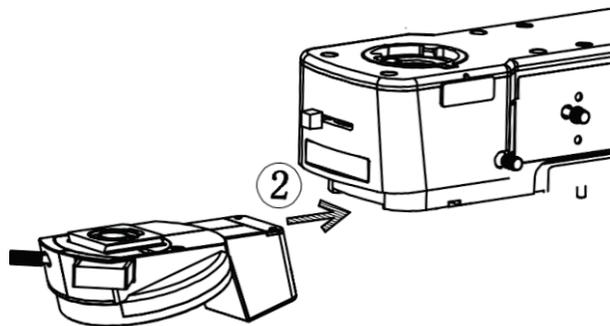

Fig.7
- (1) Unscrew the locking screw ① on the illuminator. (See Fig.7)
- (2) Align the dovetail connector ② on the objective converter with the dovetail slot of the illuminator, push it to the innermost part, and then tighten the locking screw ①.